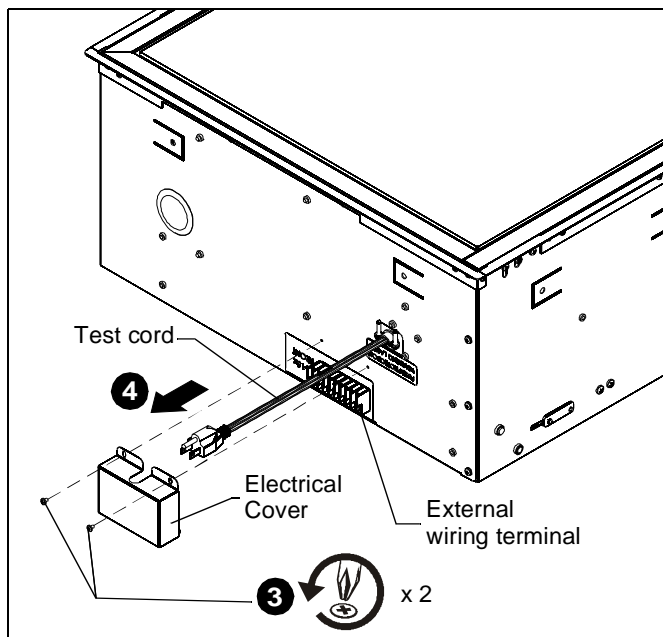
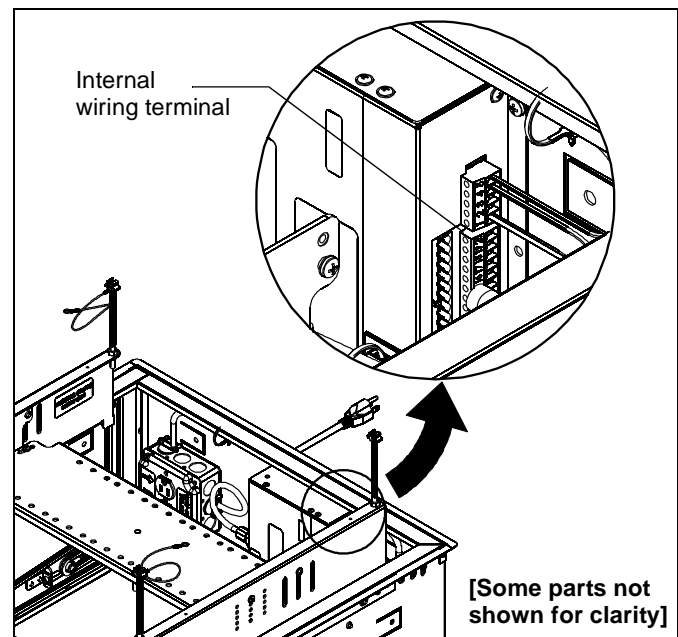

Figure 2
Figure 4
3. Remove and save two screws holding side electrical cover in place. (See Figure 2)
4. Remove electrical cover. (See Figure 2)
6. Plug in the SL151 test cord. (See Figure 2)
NOTE: (See Figure 2) for location of external wiring terminal. (See Figure 4) for location of internal wiring terminal.